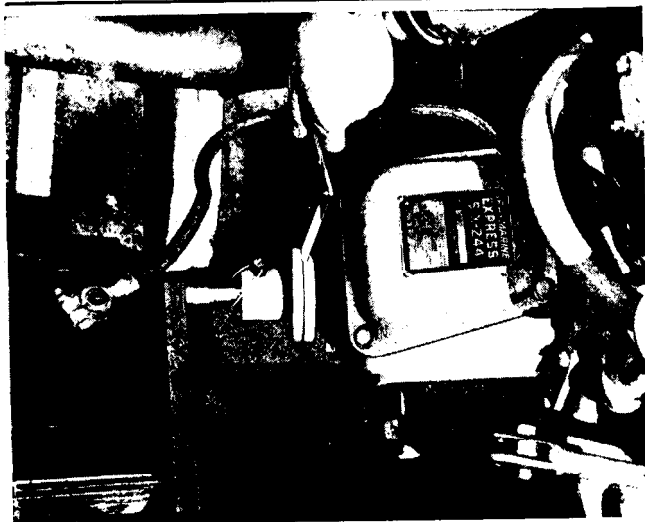

Fig. 7—Checking Engine Alignment at Propeller Coupling
17. Engine Alignment: Remove all the bolts from the coupling flanges, then rotate the shaft 360 degrees, or one complete turn, inspecting for gap with a feeler gauge. For satisfactory alignment the faces of the coupling halves should be exactly parallel, so that a .003" gauge cannot be inserted at any point (Fig. 7). After the first trial run of boat, recheck alignment as above.